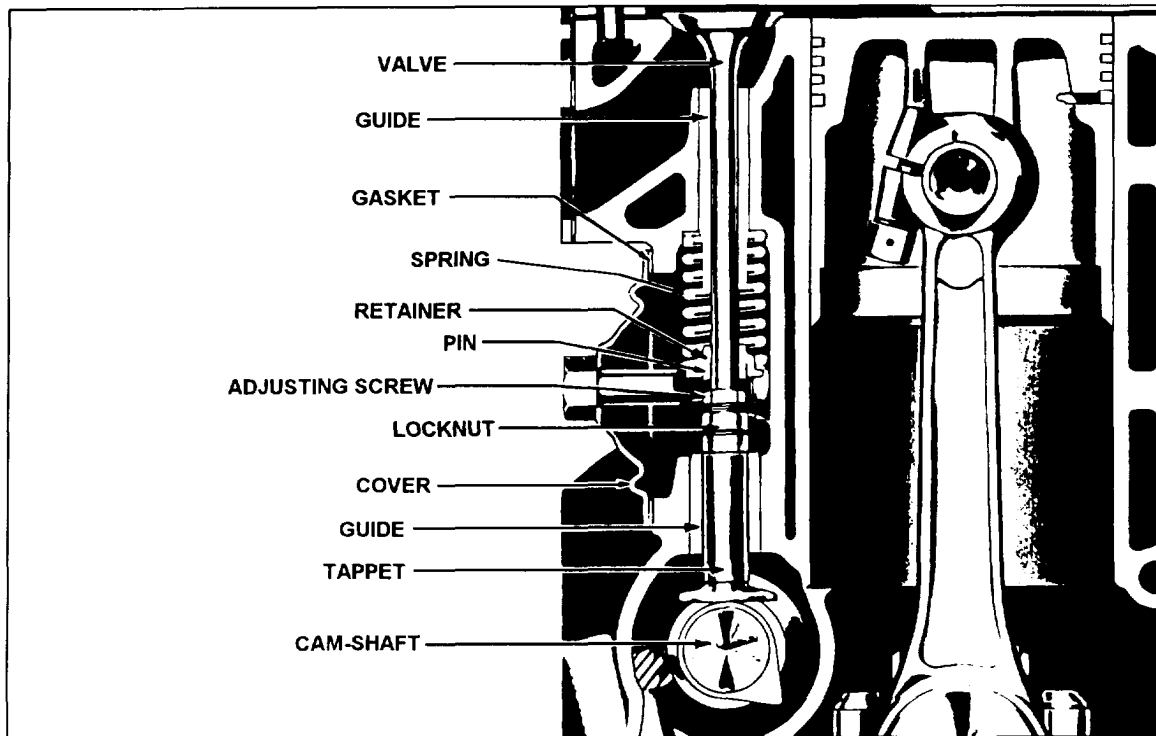

Figure 12-24.-L-head valve operating mechanism.
**FOLLOWERS.**— Camshaft followers are the parts of the valve-actuating mechanism (figs. 12-24 and 12-25) that contact the camshaft. You will probably hear them called valve tappets or valve lifters. In the L-head engine, the followers directly contact the end of the valve stem and have an adjusting device in them. In the overhead valve engine, the followers contact the pushrod that operates the rocker arm. The end of the rocker arm opposite the pushrod contacts the valve stem. The valve adjusting device, in this case, is in the rocker arm.